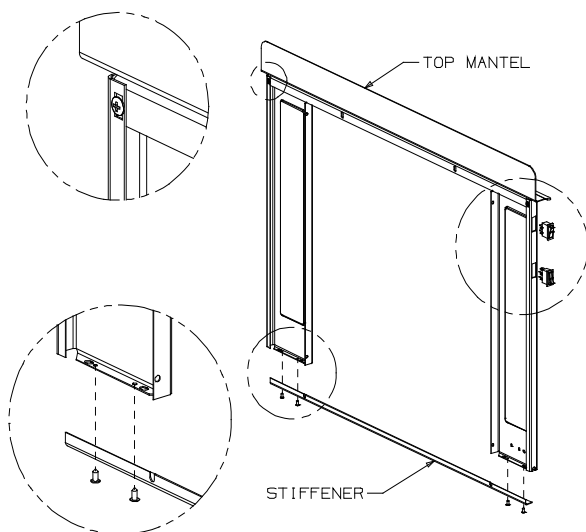

Fig 1
- 2) Take the top mantel and align the holes in it with the holes in the side panels. Using the flat head screws provided, attach the top of the side panel's to the mantel (the holes in the mantel are slightly larger than the holes in the side panel to facilitate easier installation). See Fig 1.
- 3) Next the Fascia stiffener is attached to the Fascia. Attach the stiffener to the bottom of the fascia side panels with the screws provided. See Fig 1 (bottom).